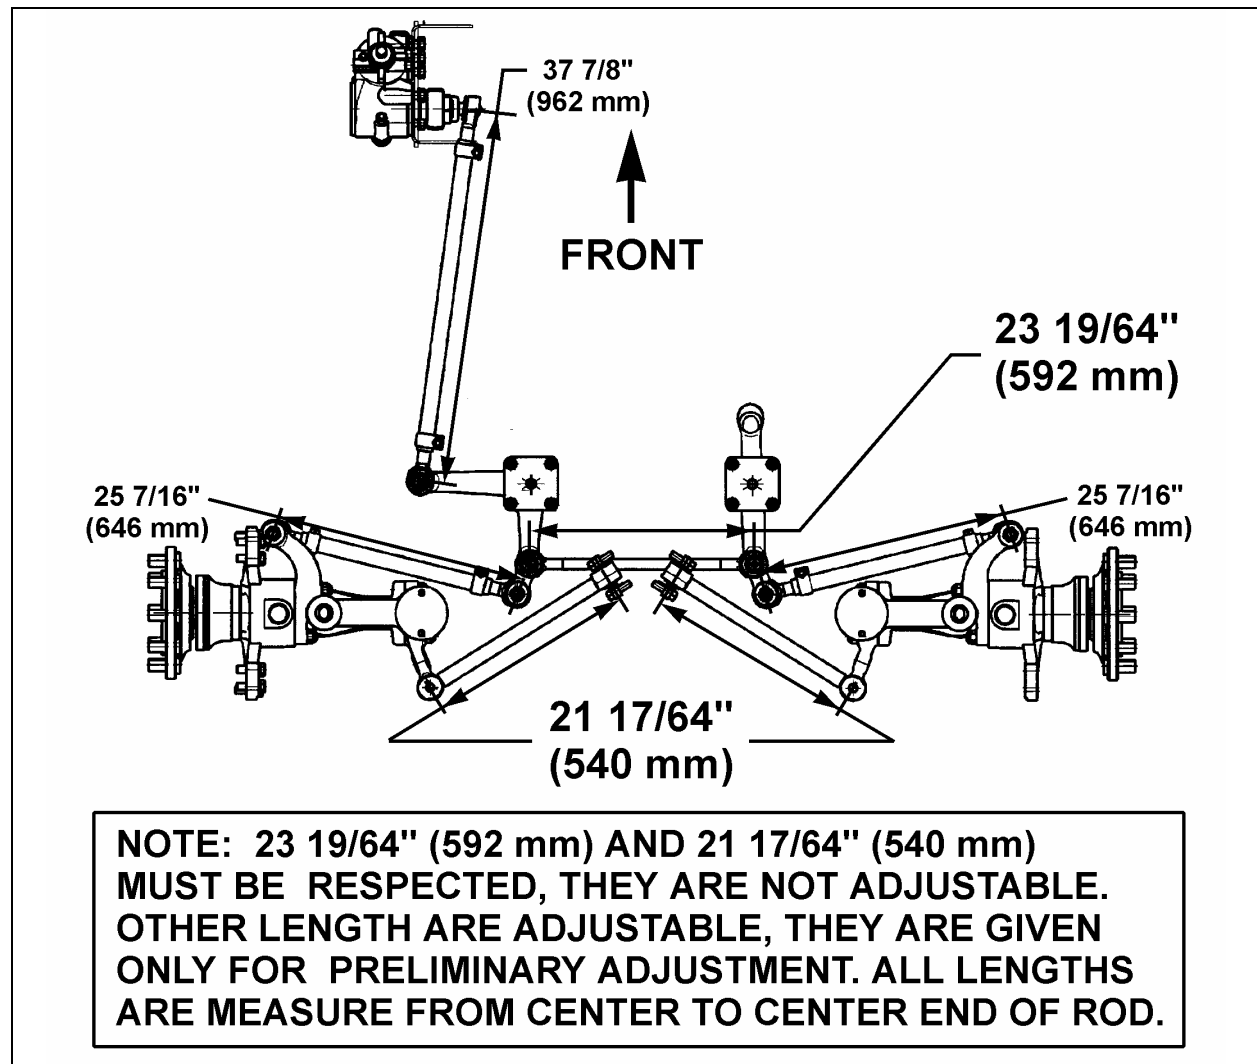

FIGURE 29: STEERING LINKAGE MEASURE
7. Check if the length of the torque rod is 21 17/64" (540 mm) (Fig. 29). Check if the length of the relay rod is 23 19/64" (592 mm).